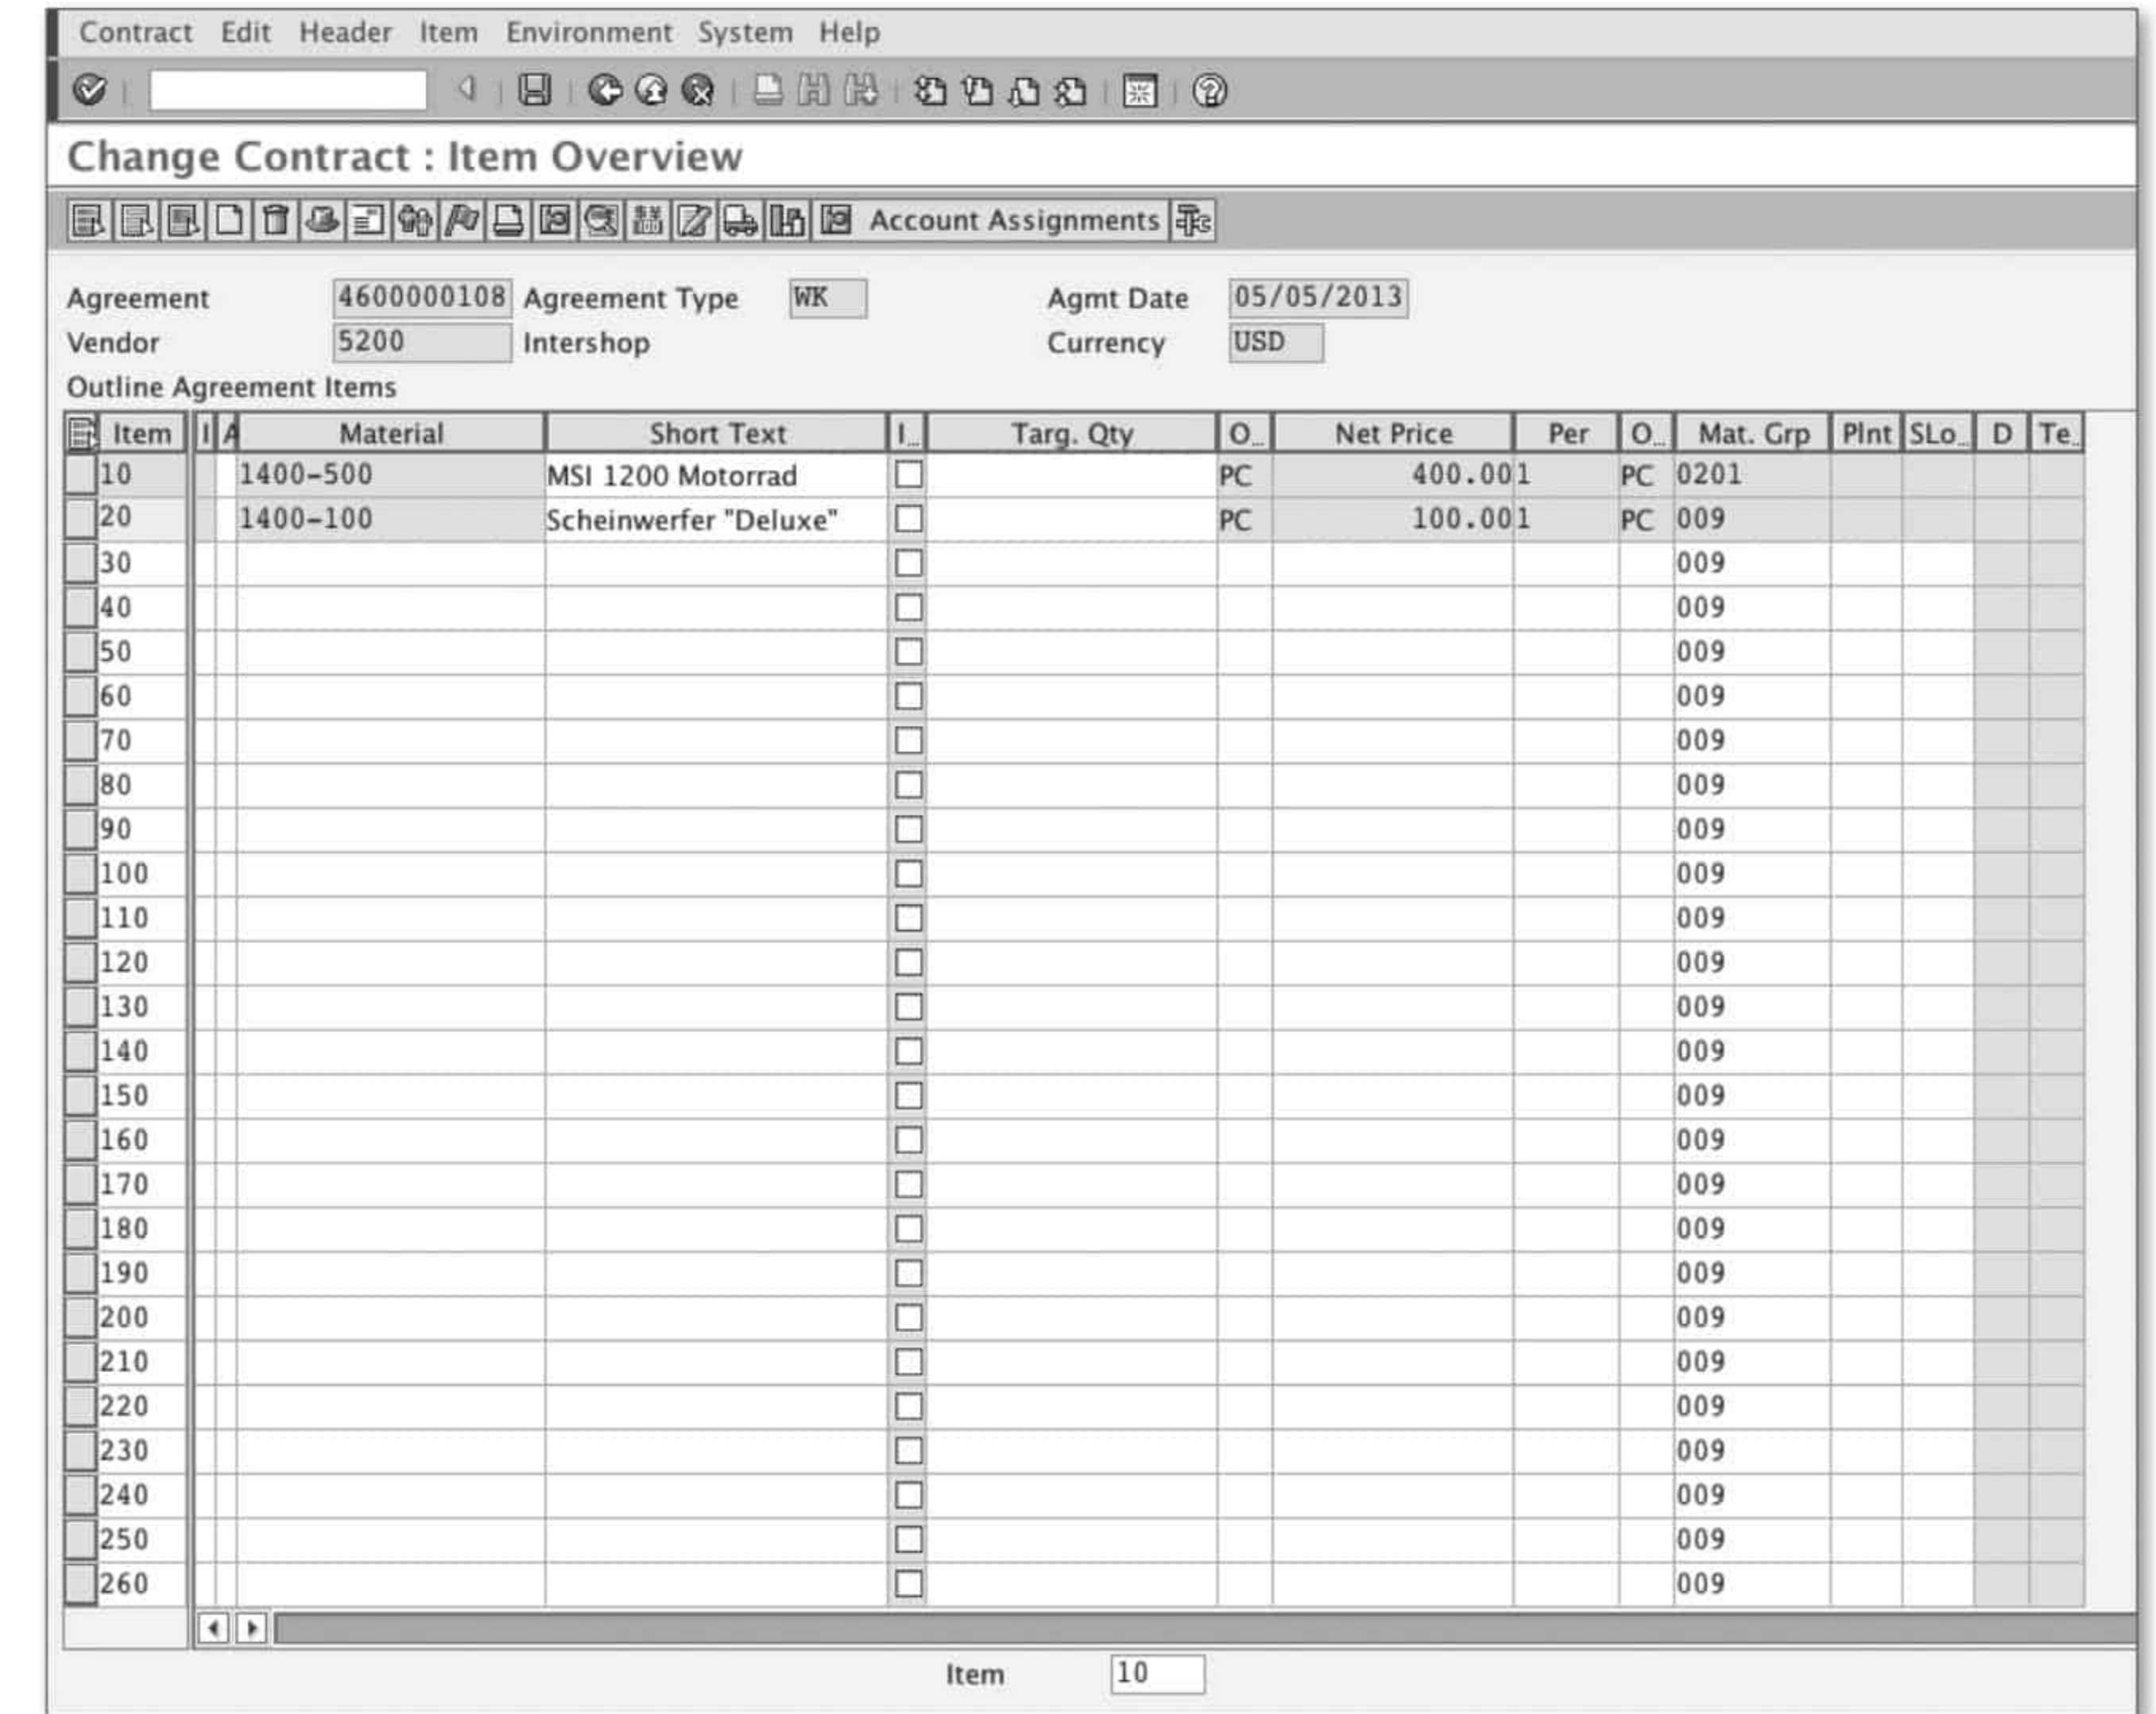

Figure 4.11 Materials Entered in a Value Contract: No Individual Quantity Needed
**Value contracts** As we discussed previously, you can either create a contract based on value or based on quantity. Value contracts (agreement type WK) are based on a fixed target monetary value on purchases of a set of materials that you enter in the contract. You enter a target contract value in the document's header (refer back to Figure 4.8) as you start creating the document. After completing the header's data, you can proceed to entering the materials that will be part of the contract. When the materials are entered in the contract, you can enter a quantity for each one, but it's not required; remember these contracts depend on a global value and not on individual quantities (see Figure 4.11).